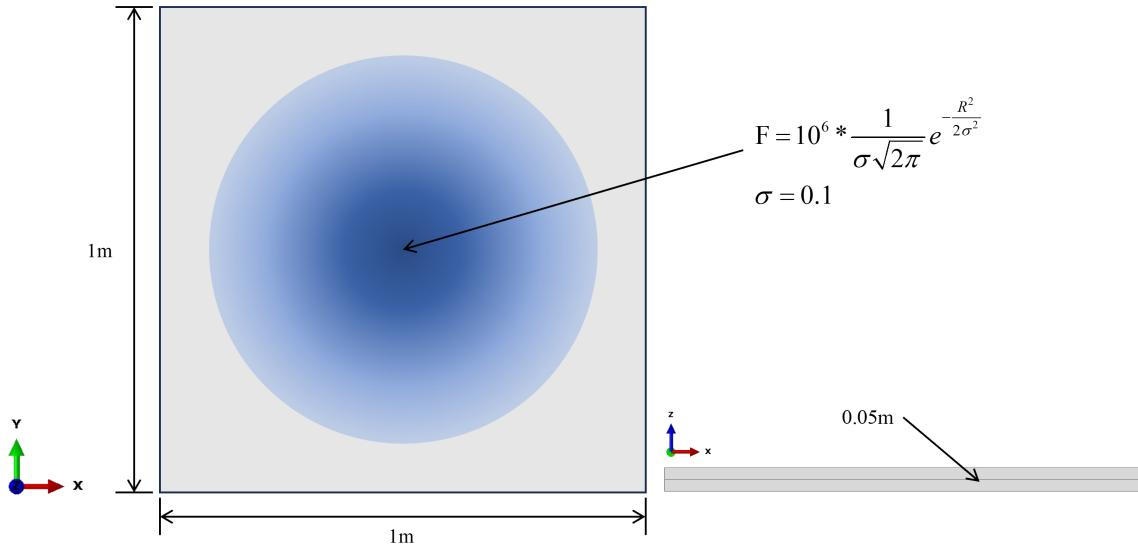

Fig. 1
2. **Problem 2 (50%)** Consider a static linear elasticity isotropic plate problem on a thin plate as shown in Fig. 1. The problem involves a square thin plate with a side length of 1 m and a thickness of 0.05 m.